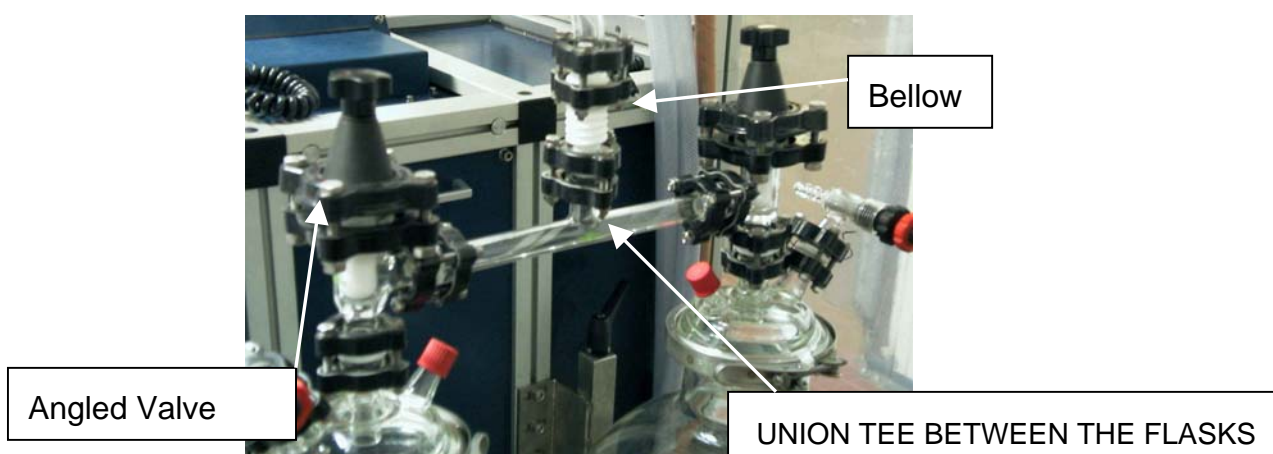

Figure 27.
(Refer to figure 27)
*(Refer to figure 27)*